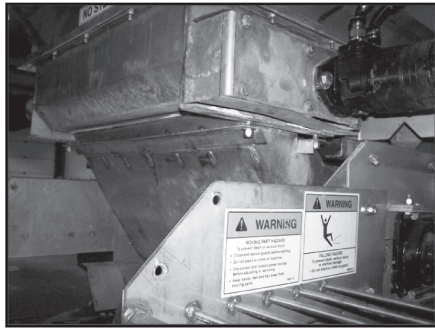

Figure 15
4. Figure 15 - Lift Lower Divider to bottom of MULTIBIN, align holes and loosely install front and rear hardware.